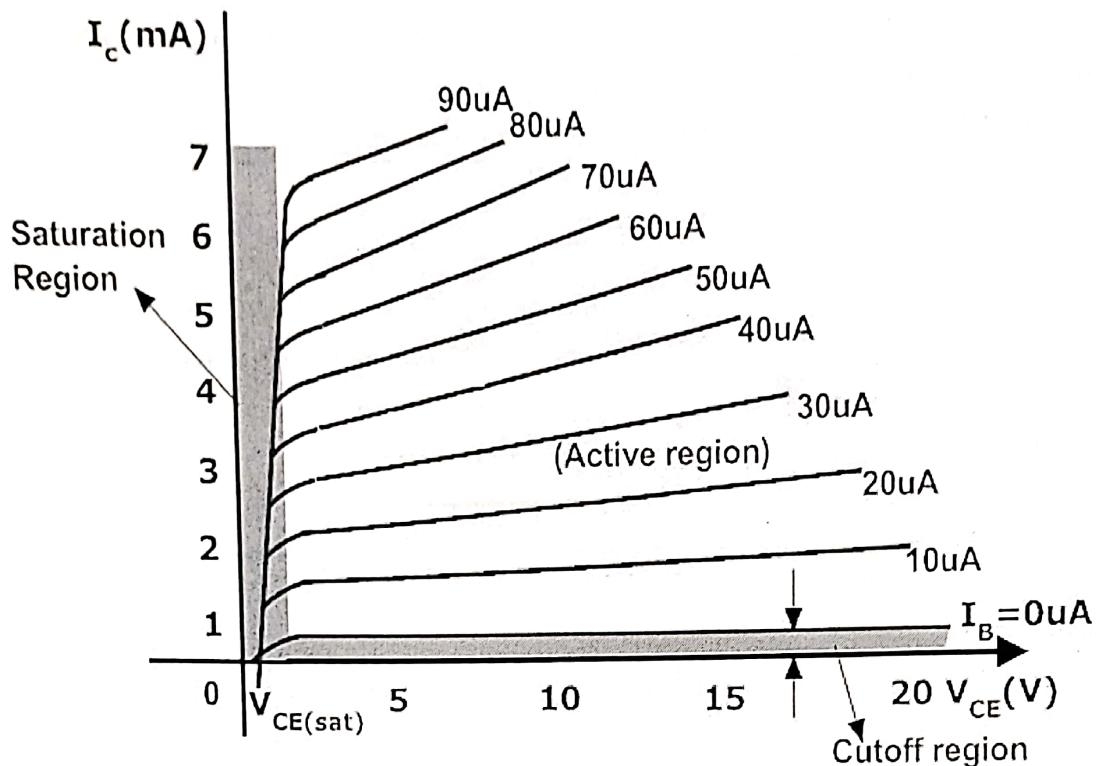

Figure4- Output Characteristics of CE Configuration
1. The typical output characteristics for some transistors are shown in fig.4